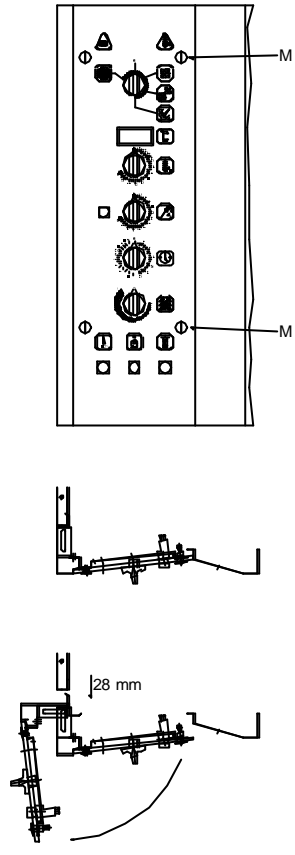
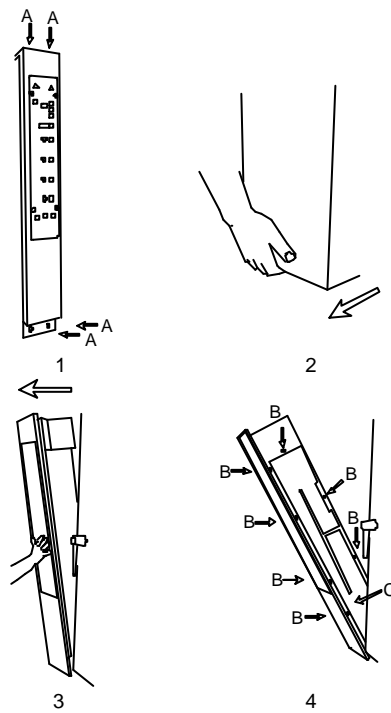
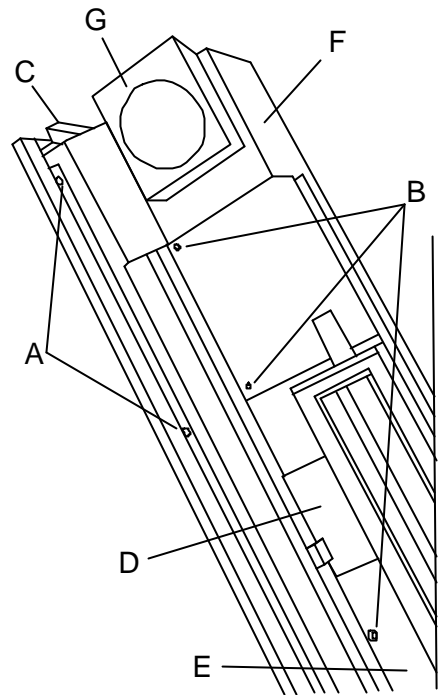

Figure 5h
Figure 5l
Figure 5n
To disconnect the electrical connections, it is necessary to open the control panel (see fig.5h for versions 6-10-20 and 4n for version 21).
- Open the control panel(see fig. 5h for versions 6-10-20 and fig. 5l for version 21).
- For version 21: open the control panel by unscrewing the "A" screws (fig. 5l) and remove the cover by unscrewing the "B" screws (fig. 5l). After replacing the necessary components, reassemble them very carefully.
Remove all knobs from the control panel. After opening it (fig. 5n), reaching from the inner side, disconnect all the bases of the switches.
To be able to replace the above mentioned components, the steel instrument board (fig 5n item C) has to be detached from the aluminised plate cover (fig. 5n item F).
The instrument board is fixed to the control panel cover by 2 series of screws (only partially shown in fig. 4i) that have to be removed removed (fig. 5n items A and B; such screws can be accessed after removing the cover, as shown in fig. 5l). After replacing the necessary components, reassemble them very carefully.
The pins of the components should be perfectly aligned with the corresponding holes in the glass. If required, a further adjustment is possible --the screws that secure the component holding plate can be used to adjust its position (fig 5n item E) conveniently.
In versions "21", the removal of the side panel can be made easier by opening the control panel (fig. 5l) first and The cooling fan is in position G fig. 5n.
- Open the control panel (see fig. 5h for versions 6-10-20 and fig. 5l for version 21), now you can see the fuses that are in the upper left side of the control panel, then find the broken fuse and replace it with another fuse having the same electrical properties. Find out the reason by checking all the components whose failure could have caused the fuse to burn. To do so, use the wiring diagram.